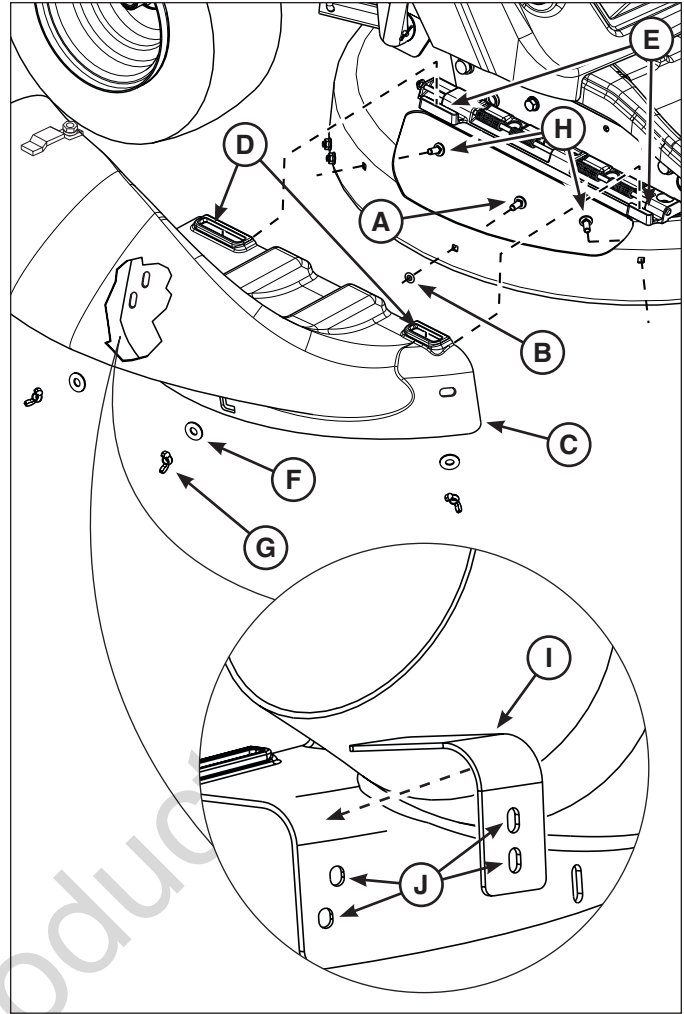

Figure 11 (Mulching cover not shown to provide clarity)
2. Install the 5/16 x 3/4" carriage bolt (A, Figure 11) out through the middle hole in the side of the deck, and secure with the 5/16" bolt retainer (B).